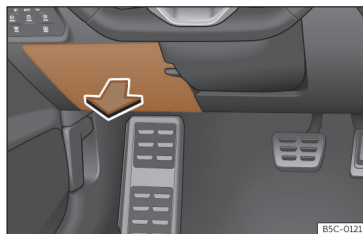

Fig. 205 On the dashboard on the driver side: lid of the fuse box.
- *Open*: fold the cover down >>> **Fig. 205**.